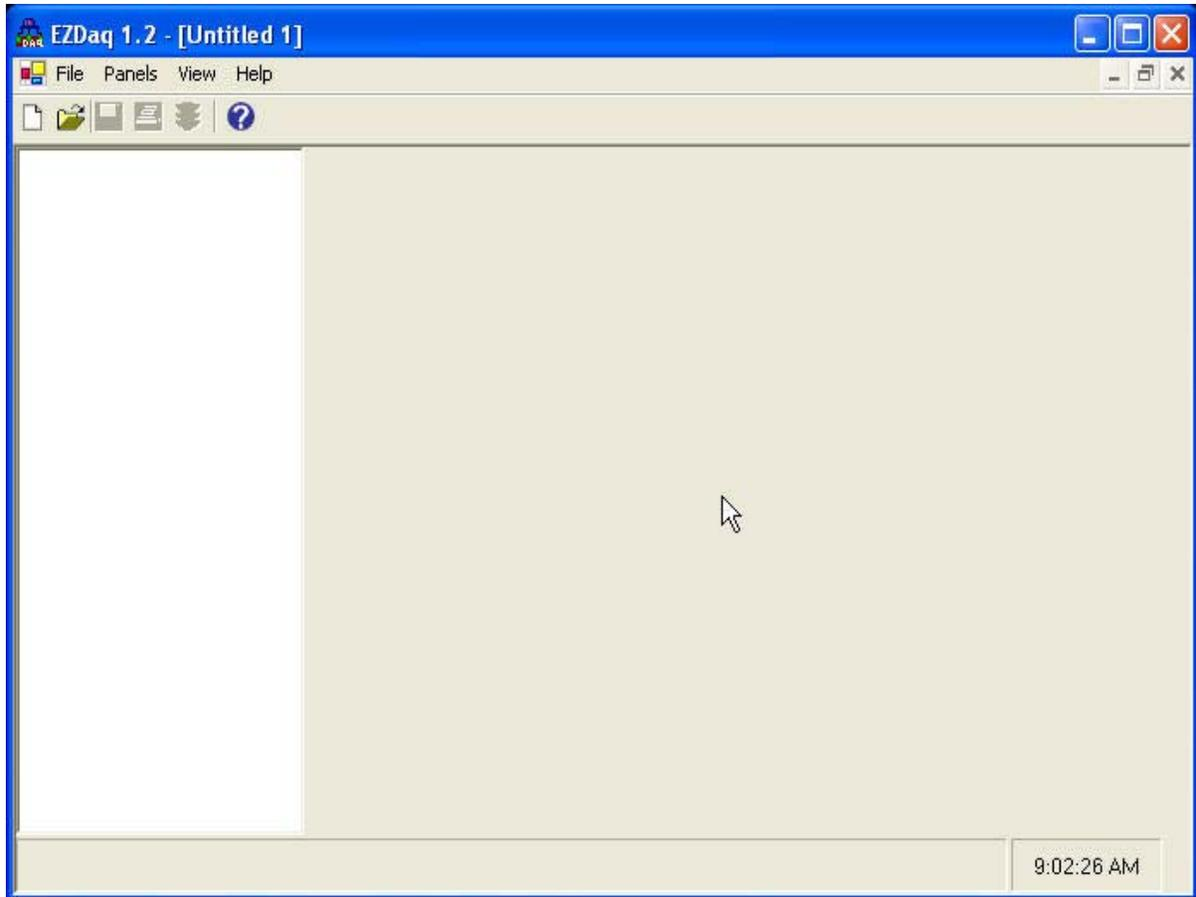

Fig. 5.2-A: Creating a new EZDaq project
- 2) Create a new schedule file (by clicking File->New or clicking New File icon on the toolbar). Fig 5.2-A shows a screen capture of the EZDaq application after this step. Note that the Panels menu and the View menu show up at the top. The next step consists of adding one or more panels to the schedule file.